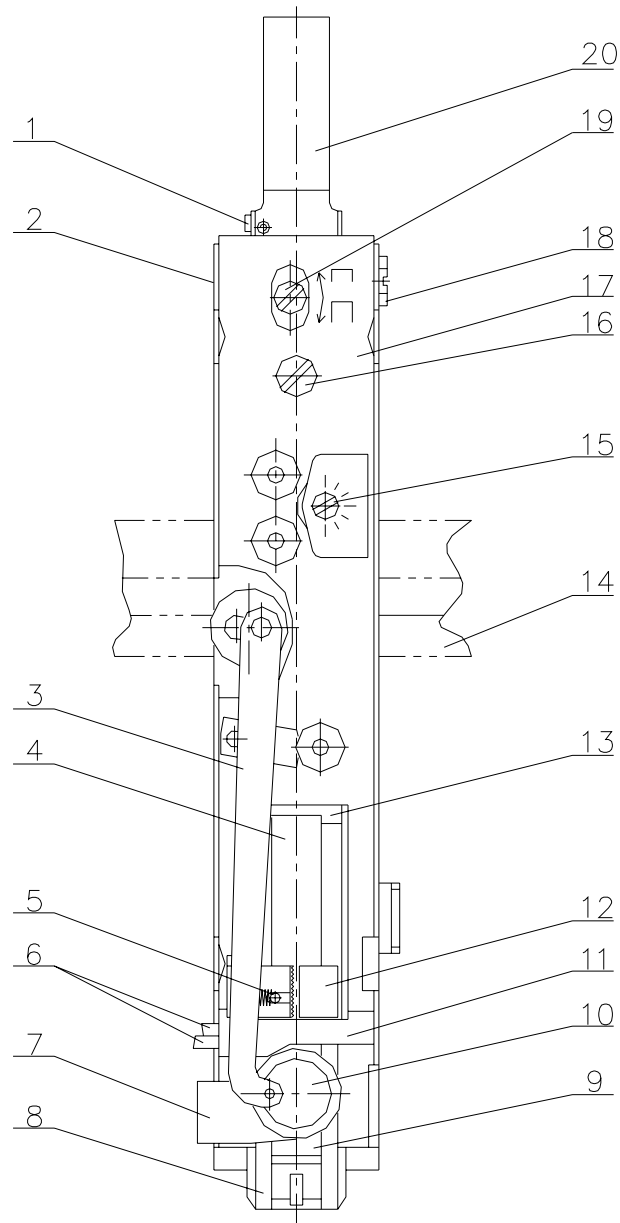

Figure 4 - Stitcher Assembly
According to the thickness of book, adjust the height of bonnet rail (see Figure 4). Adjust the bonnet rail (14) by turning the inner-hexagon screw on the top of the bonnet rail, counter clockwise to rise and clockwise to lower.